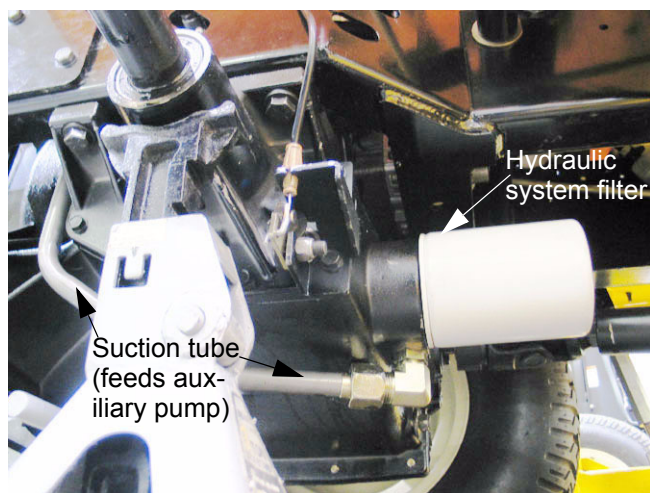

Figure 1.3
- 1.3. Filtration: The hydraulic system filter (P/N:723-0405) is located on a boss on the front surface of the transmission housing, adjacent to the mid-mount, 2000 R.P.M. P.T.O. shaft. See Figure 1.3.